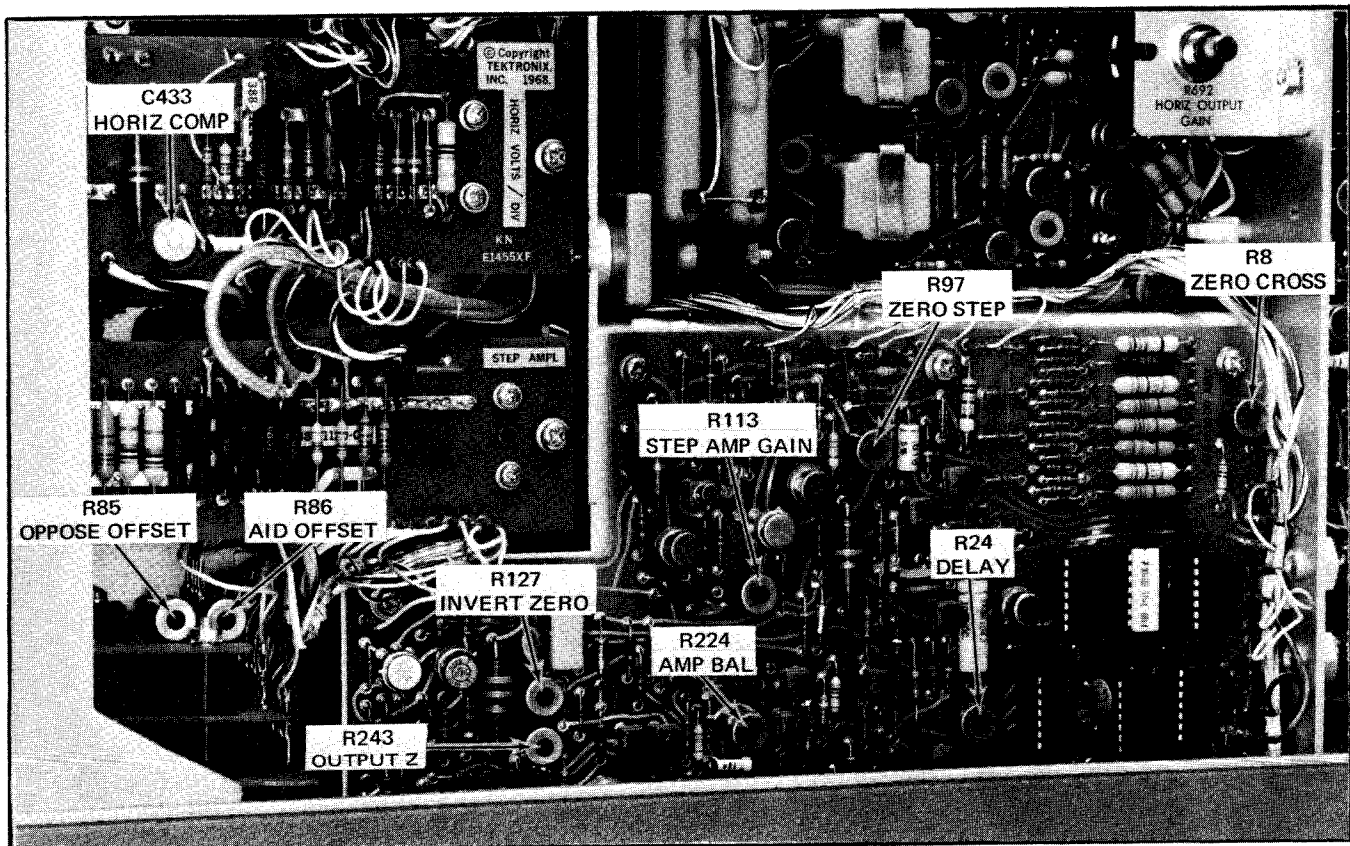

Fig. 5-9. STEP GEN circuit board: Location of adjustments in step 14 and steps 22 through 26.
c. ADJUST—R8, ZERO CROSS adjustment, (see Fig. 5-9) if the display is not correct.
g. ADJUST—R24, DELAY adjustment, (see Fig. 5-9) if the steps do not occur at the peak of the Collector Supply output.
e. ADJUST—R224, AMP BAL adjustment, (see Fig. 5-9) if the spot is not centered.
h. ADJUST—R97, ZERO STEP adjustment, (see Fig. 5-9) if the display is not centered.
m. ADJUST—R127, INVERT ZERO adjustment, (see Fig. 5-9) if the spot is not centered.
k. ADJUST—R86, AID OFFSET adjustment, (see Fig. 5-9) if the level of the zero step with offset is not correct.
q. ADJUST—R85, OPPOSE OFFSET adjustment, (see Fig. 5-9) if the level of the tenth step with offset is not correct.
h. ADJUST—R243, OUTPUT Z adjustment, (see Fig. 5-9) if the spot is not centered.